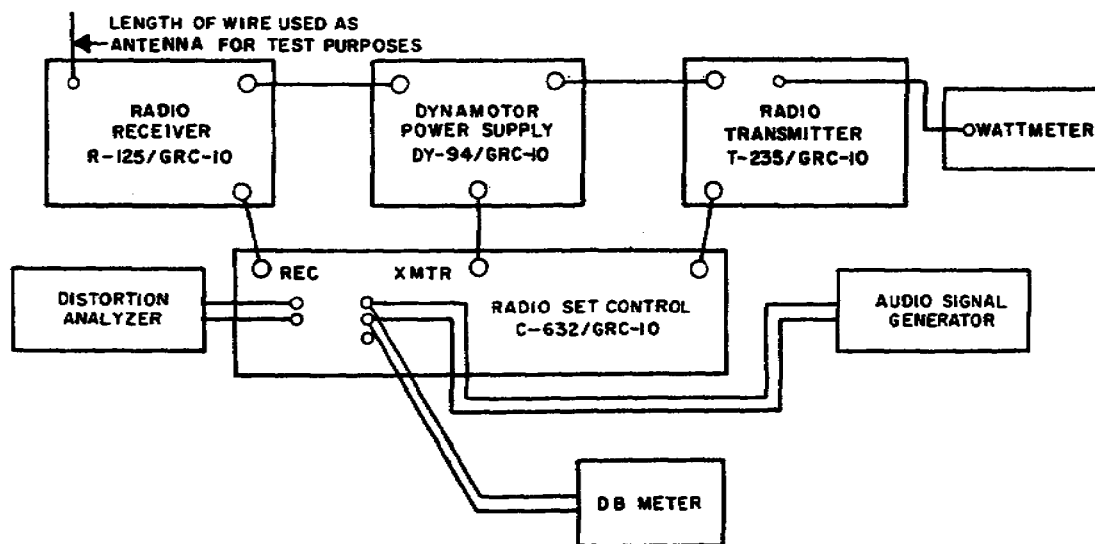

Figure 15. Test equipment setup for the AN/GRC-10.
b. Figure 15 shows the final test setup for the AN/GRC-10. Generally speaking, when making the final test on a transmitter, there are four important things you should do.
(1) See if the power output of the transmitter is correct. This means you'll have to check the power output over the entire band of frequencies that the transmitter can produce.
(2) Check to see if all of the panel lights and meters are working properly.
(3) Modulator operation must also be checked to see that it is putting out the maximum amount of power.
(4) Check to see if abnormal distortion is present.